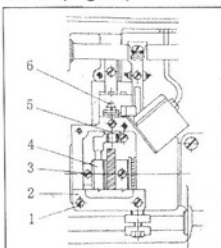

Fig. 23
32. The position between hook and opener motion adjustment(Fig.23)